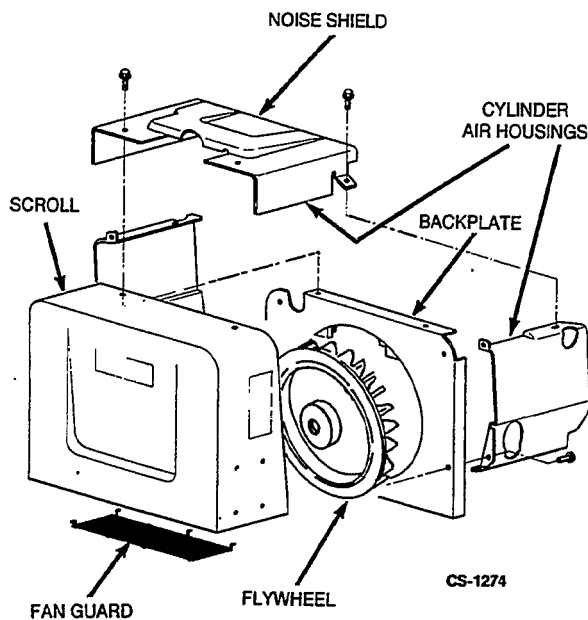

FIGURE 6-4. COOLING SYSTEM
2. Remove the capscrews that secure the noise shield (see Figure 6-4) to the engine. Lift off the noise shield.
- Remove the spark plugs and fan scroll (Figure 6-4) so that the engine can be turned by hand.